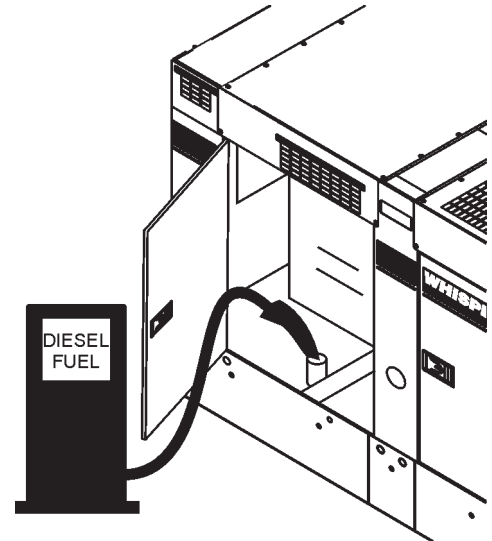

**Figure 33. Only Fill on Level Ground**
1. **Level Tanks** – Make sure fuel cells are level with the ground. Failure to do so will cause fuel to spill from the tank before reaching full capacity (Figure 33).